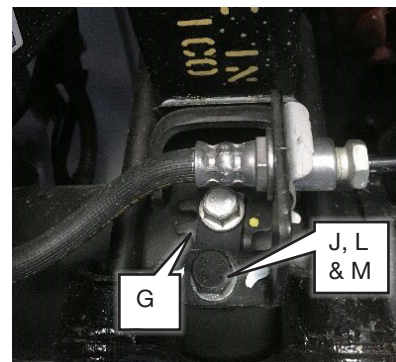

Fig. 10
- Attach the brake line bracket to the brake line tab bracket using M8 hardware (J, L & M) on both sides of the vehicle (Fig. 10). Torque bolts to 16 lb.-ft. (22Nm).